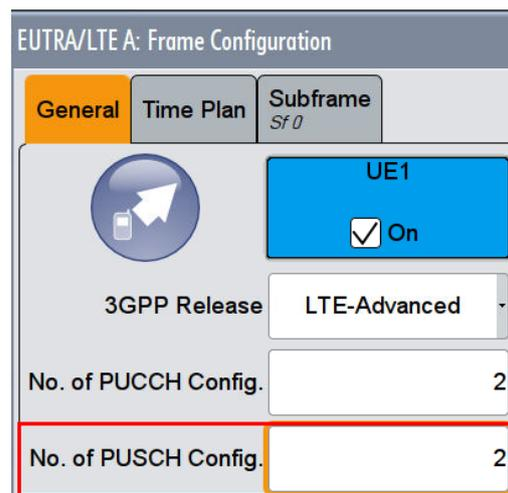

Fig. 3-166: UE1 and No of PUCCH Configuration
7. Set **No of PUCCH Config** to 2 (Fig. 3-166).